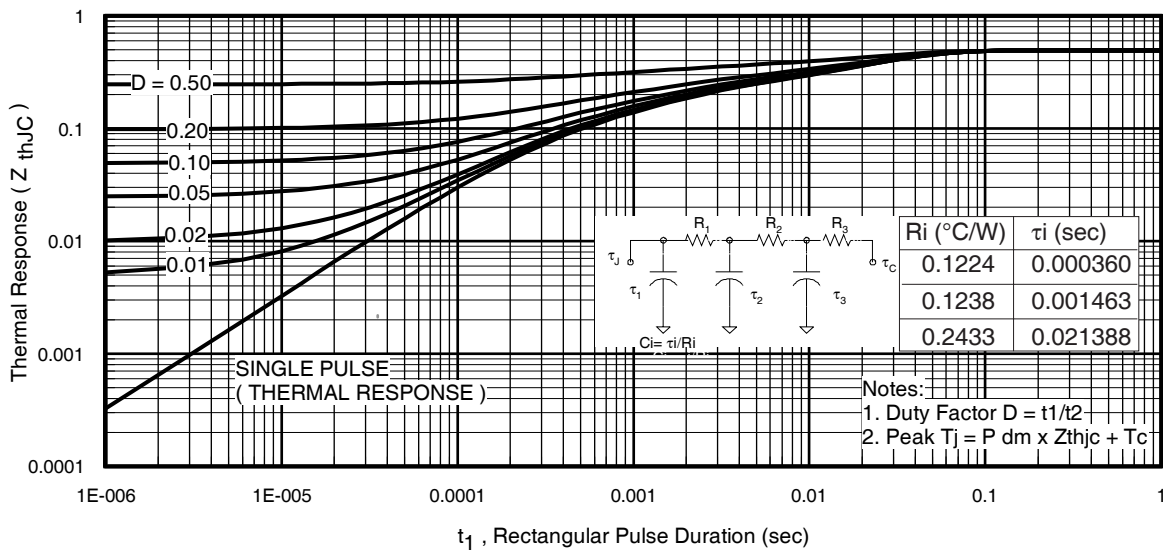
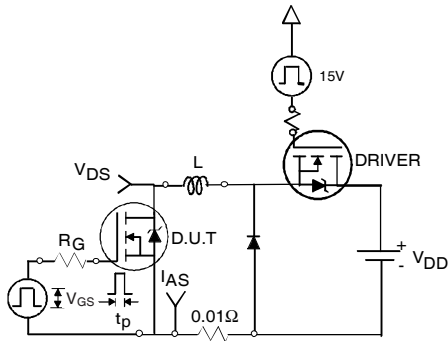

Fig 11. Maximum Effective Transient Thermal Impedance, Junction-to-Case
Fig 12a. Unclamped Inductive Test Circuit
- ① Repetitive rating; pulse width limited by max. junction temperature. (See fig. 11).
- ② Limited by T_{Jmax} , starting $T_J = 25^\circ\text{C}$, $L = 0.13mH, R_G = 25\Omega, I_{AS} = 90A, V_{GS} = 10V$. Part not recommended for use above this value.
- ③ $I_{SD} \leq 90A, di/dt \leq 340A/\mu s, V_{DD} \leq V_{(BR)DSS}, T_J \leq 175^\circ\text{C}$.
- ④ Pulse width $\leq 1.0ms$; duty cycle $\leq 2\%$.
- ⑤ $C_{oss\ eff.}$ is a fixed capacitance that gives the same charging time as C_{oss} while V_{DS} is rising from 0 to 80% V_{DSS} .
- ⑥ Limited by T_{Jmax} , see Fig.12a, 12b, 15, 16 for typical repetitive avalanche performance.
- ⑦ This value determined from sample failure population. 100% tested to this value in production.
- ⑧ R_{θ} is measured at T_J of approximately 90°C .
3. Equation below based on circuit and waveforms shown in Figures 12a, 12b.
$Z_{thJC}(D, t_{av})$ = Transient thermal resistance, see figure 11)